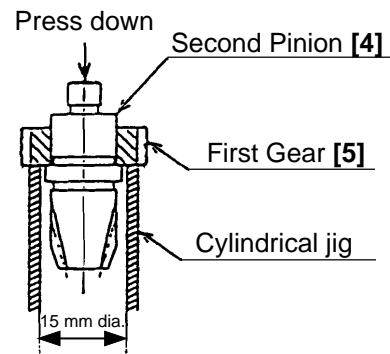

Fig. 6
(3) Disassembly of the second pinion
- (a) Place the end surface of the First Gear [5] on a cylindrical jig and press down on the Second Pinion [4] with a hand press. Then the Second Pinion [4] can be removed (See Fig. 6).